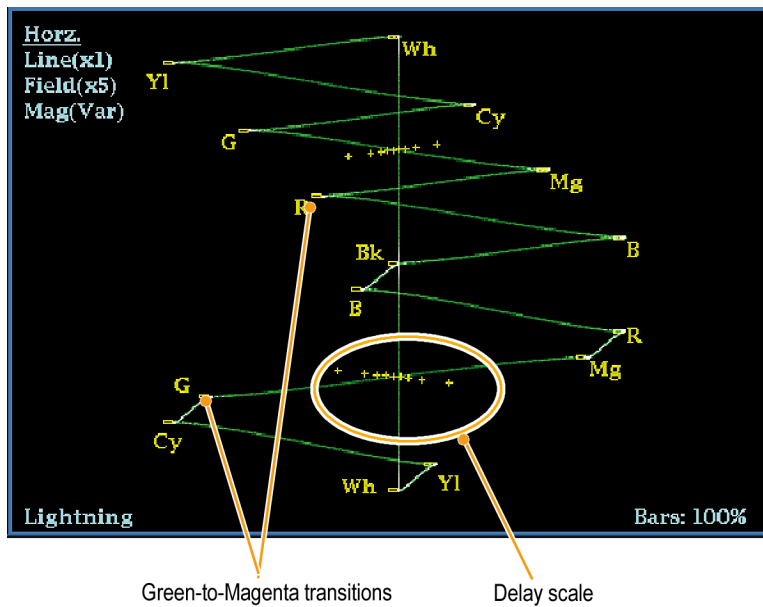

Figure 48: Determining transition intersections in the Lightning display
7. Determine where transitions intersect the delay scales and derive the timing error in nanoseconds, as deflected from the center mark, using the following guidelines. (See Figure 48.)